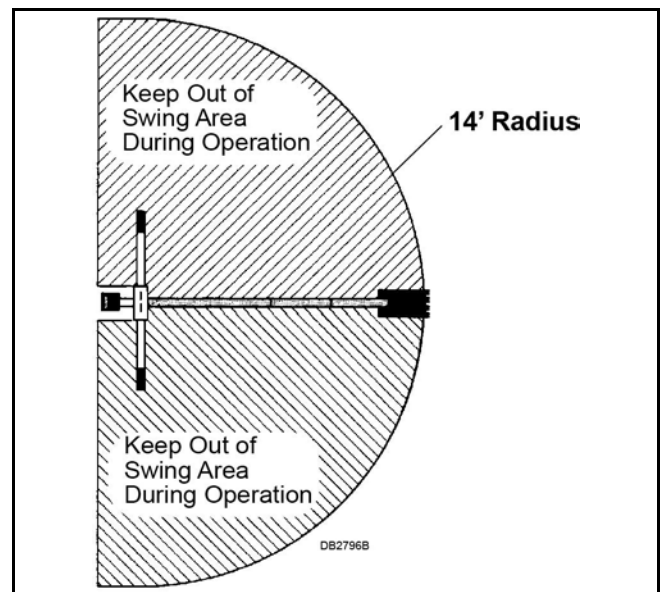

Figure 6. Backhoe Swing Area
- Mechanical failures such as hose ruptures will cause a load to drop. Lifting a heavy load with the dipper, then operating the boom, could cause boom to drop. In either case, if anyone is in the area (maximum reach of bucket) as shown in Figure 6, serious injury or death could occur.